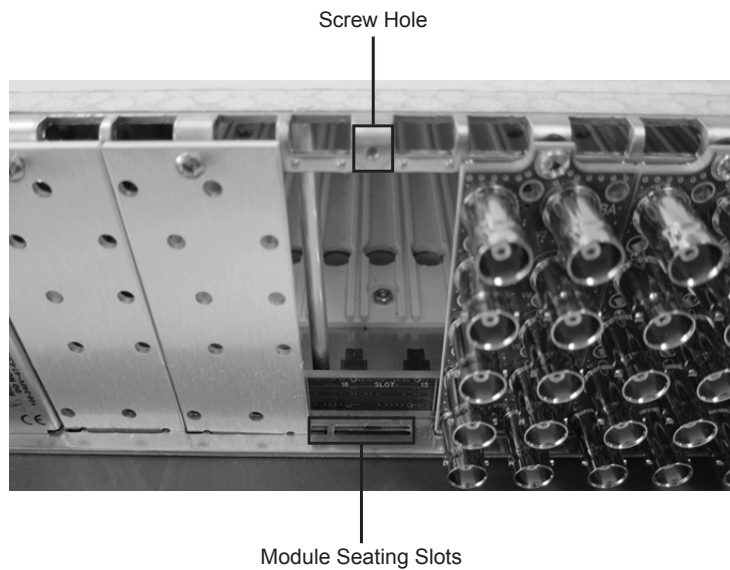

Figure 2.1 *Rear Module Installation in an openGear Frame (Card not shown)*
3. Install the bottom of the Rear Module in the **Module Seating Slot** at the base of the frame’s back plane. (**Figure 2.1**)